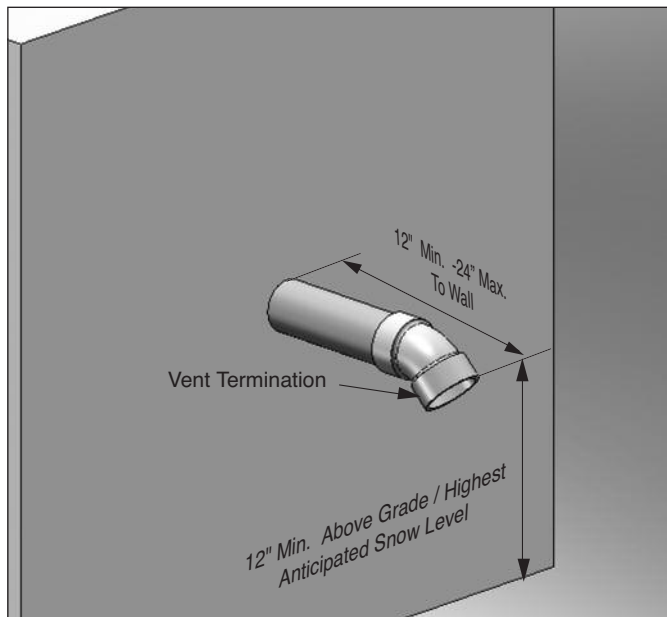
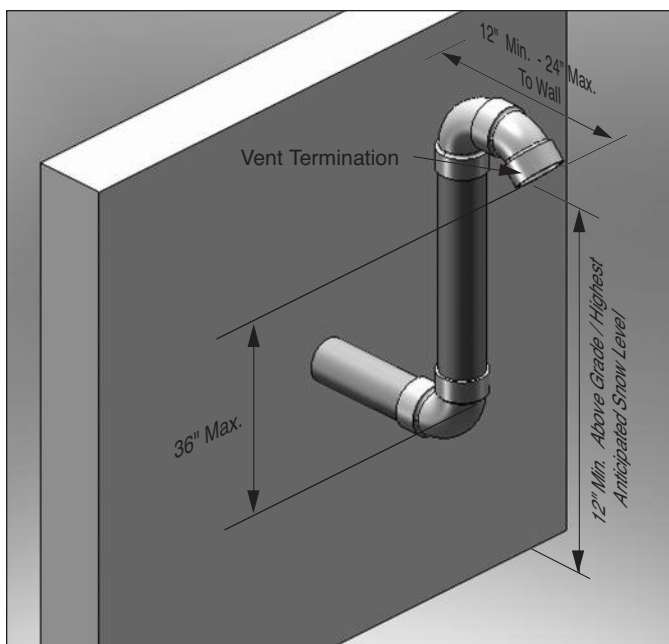

Fig. 28: Category IV - Sidewall Termination of Vent Pipe with 45° Termination
Fig. 31: Category IV - Sidewall Snorkel Termination of Vent Pipe with 45° Elbow Termination
- Using a 45° elbow as shown in Fig. 28 page 26 or Fig. 31 page 27.